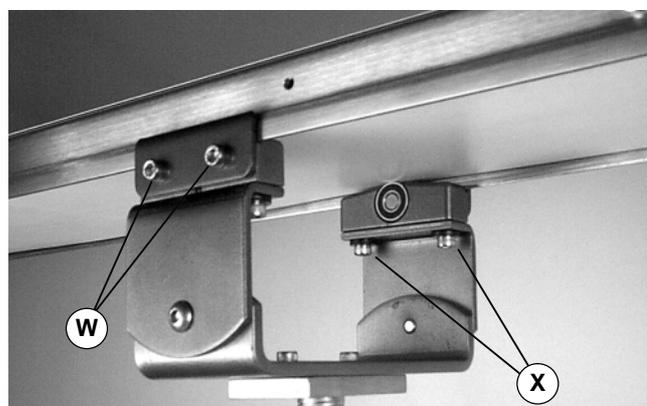

Figure 13
3. Attach clamp plates on each side of conveyor (Figure 13). Tighten the screws (W) to 9 Nm.